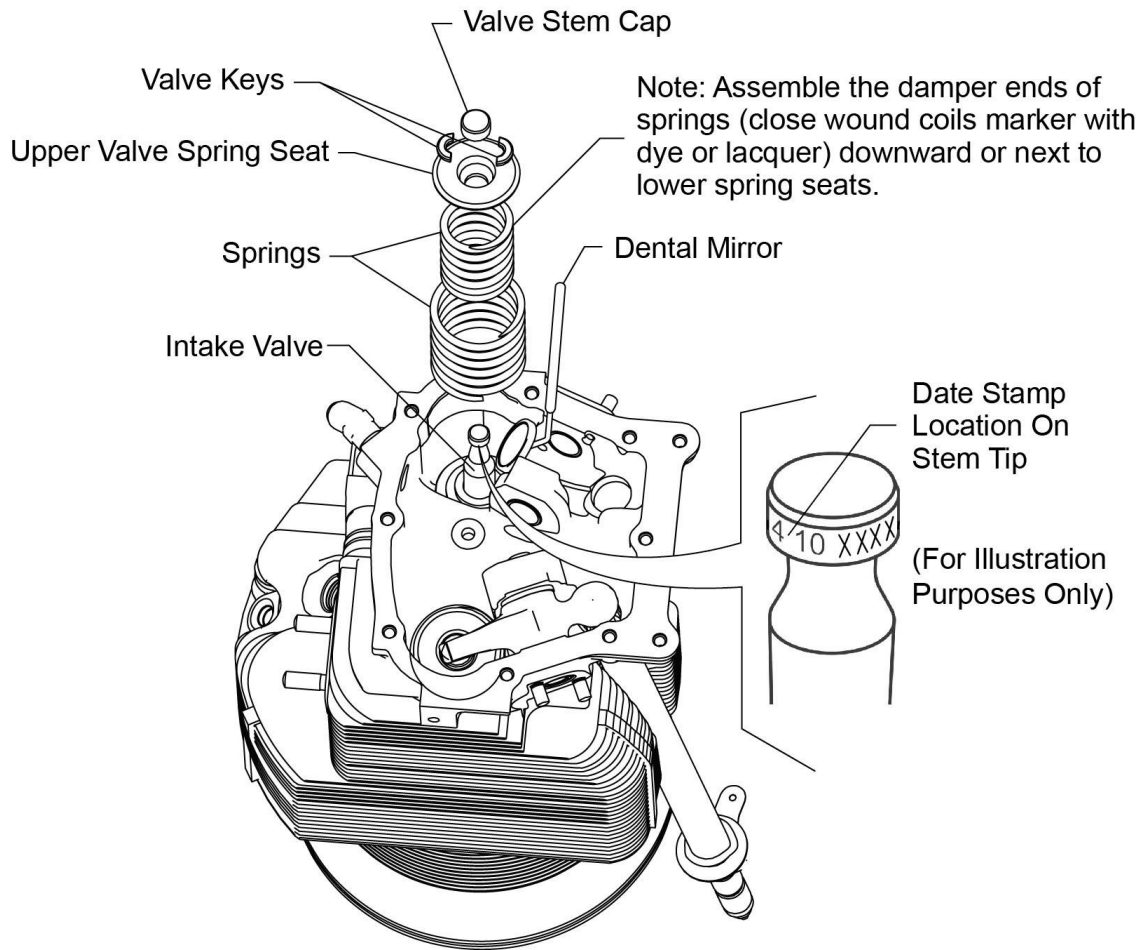

Figure 2
9. Remove the upper valve spring seat (Figure 2) and valve spring.
10. Insert a long reach dental mirror tool around the perimeter of the stem tip of the intake valve and look for the date stamp (Figure 2).
11. If the date stamp (Figure 2) is one of the date stamps identified in Table 1: